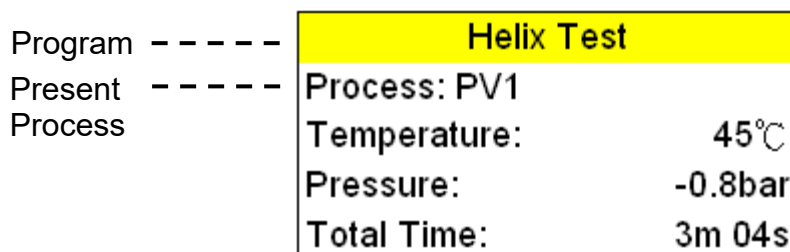

Figure 101
- F. Press  button to star the Helix Test Program, as shown in Figure 101.